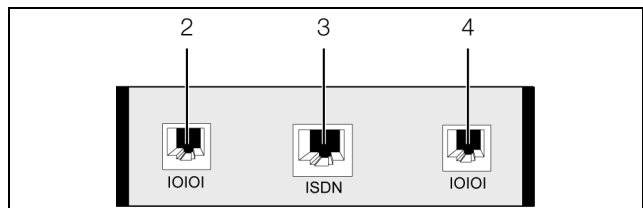

Fig. 9: Rear of the ISDN unit
- 2 Connection of the CMC III Processing Unit RJ 12/ RS 232, 24 V $\overline{\text{---}}$, 500 mA (alternative to item 4)
- 4 Connection of the CMC III Processing Unit RJ 12/ RS 232, 24 V $\overline{\text{---}}$, 500 mA (alternative to item 2)
- Connect the ISDN unit to the building's ISDN connection using an RJ 45 connection cable (fig. 9, item 3).
- Connect the ISDN unit to the CMC III Processing Unit using an RJ 12 connection cable (fig. 9, item 2 or item 4).